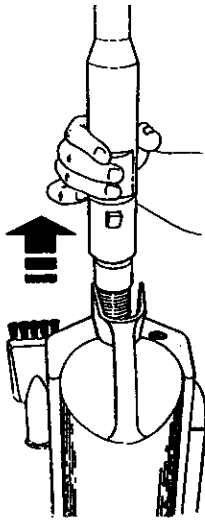

FIGURE 10
- Squeeze the Handle/Lock located at the front of the handle and lift up in the direction of the arrow to detach the handle. (Figure 10)
- Activate the Cleaning Wand as per Figure 10 on page 5.